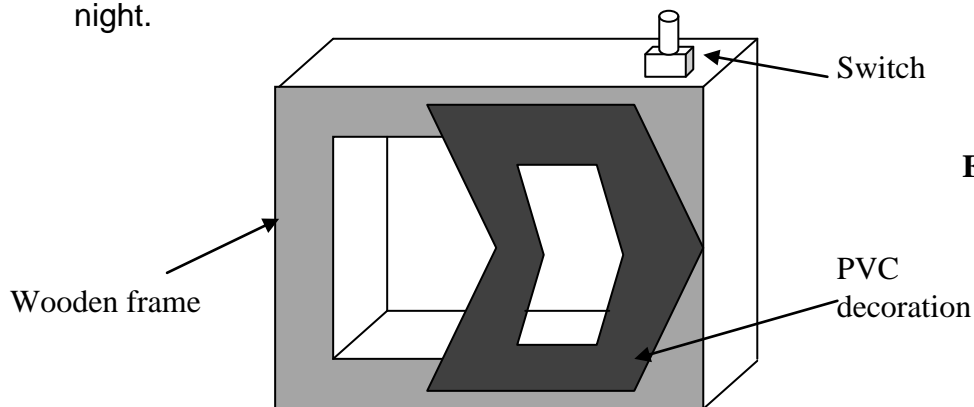

Figure 3
8. Figure 3 shows a bed side ornament that was created to give light during the night.